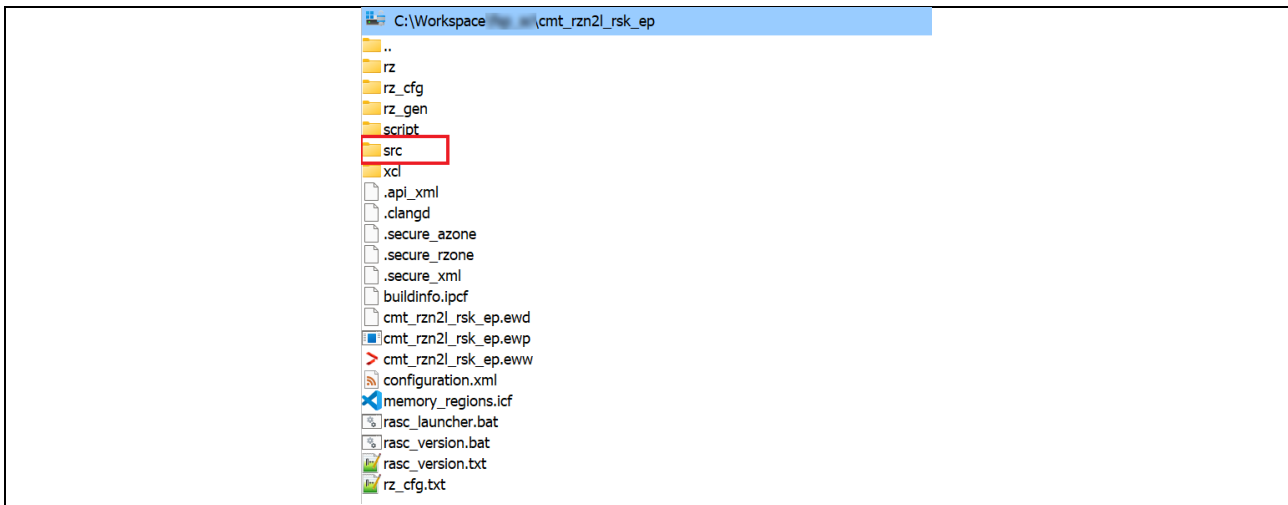

Figure 43. FSP SC Project folder structure
- If the above steps are completed successfully, the src folder will be available in the workspace, as shown in Figure 43.